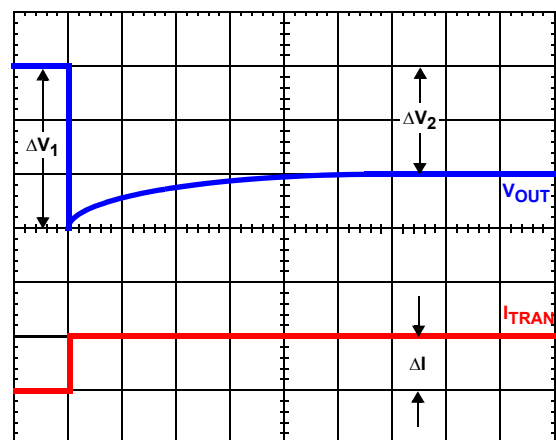

FIGURE 19. TIME CONSTANT MISMATCH BEHAVIOR
Due to errors in the inductance and/or DCR it may be necessary to adjust the value of R_1 and R_2 to match the time constants correctly. The effects of time constant mismatch can be seen in the form of droop overshoot or undershoot during the initial load transient spike, as shown in Figure 19. Follow the steps below to ensure the R-C and inductor L/DCR time constants are matched accurately.
3. Record ΔV_1 and ΔV_2 as shown in Figure 19.